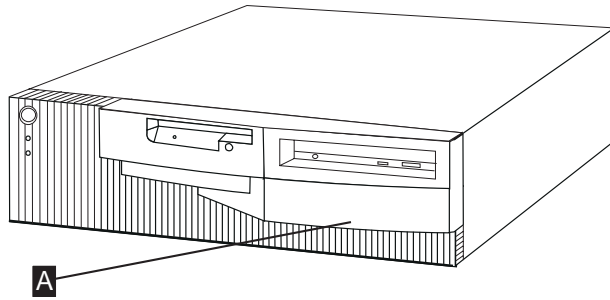

Figure 1-2. Installing Label on the Front Side of the Service Processor
3. ____ Using label (PN 0782966), **identify** your Service Processor-A or Service Processor-B by sticking the appropriate label **A** on the front side of the unit (refer to Figure 1-2 on page 1-11).